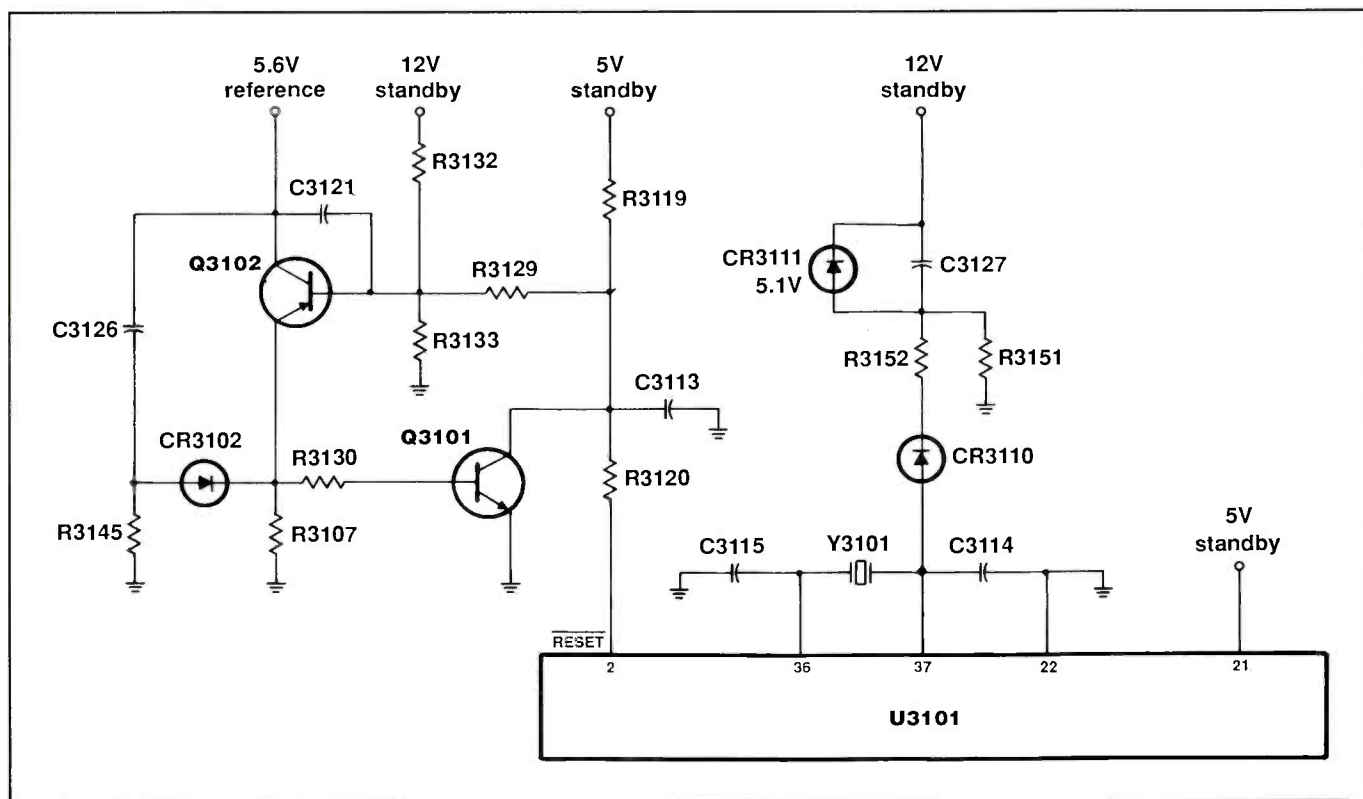

Figure 6. Don't overlook the reset circuit. Pin 2 of U3101 has to have its reset, or the chip will not work.
(1) Does the microprocessor have its 5V, and is the 5V "clean"? Remember that the standby supply has just enough current to hold the chassis in standby. Use your external supply to hold the voltage up if you need it.
(2) Is there reset? Don't overlook the reset circuit. Pin 2 of U3101 has to have its reset, or the chip will not work (Figure 6). You might also note that the reset circuit monitors the state of the 12V standby supply. If that voltage drops below 10V, the reset circuit will activate and hold the microprocessor in a reset state.
(3) Is the oscillator working? Check pins 36 and 37 for a 5V_{pp}, 8Mhz signal. If that signal is absent either the crystal or the IC, or both, are suspect.
(4) Is there something holding the data-in lines low? A stuck or leaky front panel control can cause you problems.